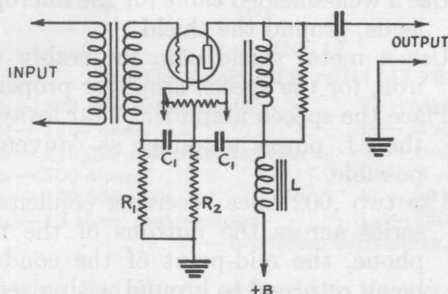

FIG. 17
1. Use grid and plate filters or "de-coupling" devices (see Fig. 17) in the grid and plate circuits of one or all audio stages, especially the high-level stages.